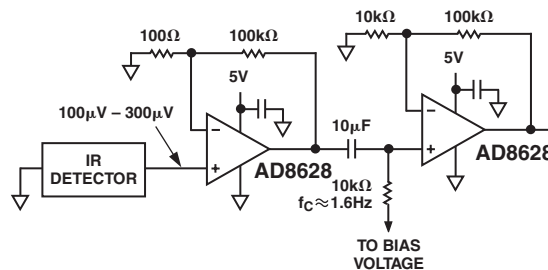

Figure 13. Preamplifier for Thermopile
Infrared (IR) sensors, particularly thermopiles, are increasingly being used in temperature measurement for applications as wide-ranging as automotive climate controls, human ear thermometers, home insulation analysis, and automotive repair diagnostics. The relatively small output signal of the sensor demands high gain with very low offset voltage and drift to avoid dc errors. If interstage ac coupling is used (Figure 13), low offset and drift prevents the input amplifier’s output from drifting close to saturation. The low input bias currents generate minimal errors from the sensor’s output impedance. As with pressure sensors, the very low amplifier drift with time and temperature eliminates additional errors once the temperature measurement has been calibrated. The low 1/f noise improves SNR for dc measurements taken over periods often exceeding 1/5 second. Figure 15 shows a circuit that can amplify ac signals from 100  $\mu\text{V}$  to 300  $\mu\text{V}$  up to the 1 V to 3 V level, gain of 10,000 for accurate A/D conversion.